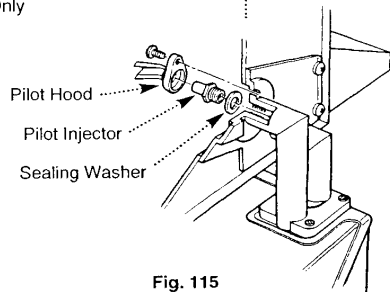

Fig. 115
10.12 Pilot Burner Injector (Fig. 115)